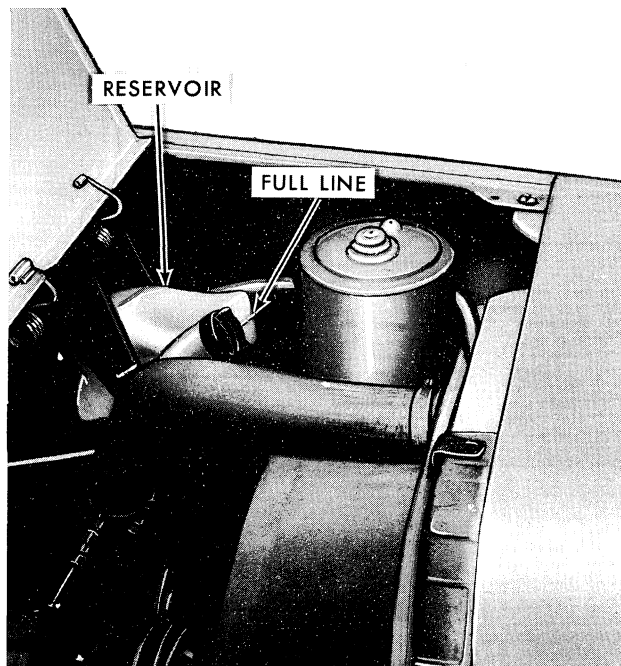

Figure 1
Your new Ford Tractor is equipped with hydraulic disc brakes. Oil for the brakes is supplied to the brake master cylinder by an auxiliary reservoir, Figure 1, located under the hood access panel. The auxiliary reservoir must be kept full at all times.
2. The oil should be level with the full line as shown in Figure 1. If low, add a fluid that meets Ford Specification M-6C34-A oil until level with the full line on the auxiliary reservoir.